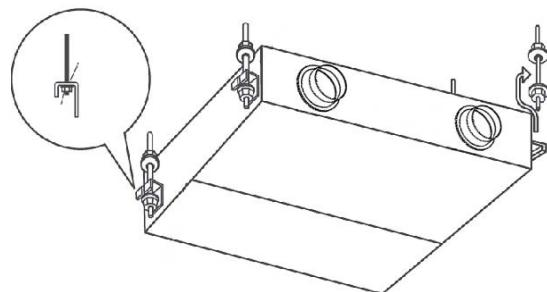

Figure 4.5 Hoisting Methods
(2) Body Installation
- As is shown in Figure 4.5, place the left bracket on the nuts and washers of the hanging bolts.